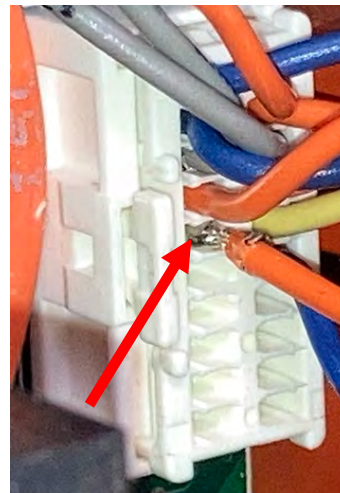

Figure 27
- i. Insert the orange wire directly to the left of the yellow wire, on the J1 vertical connector attached to the SIB board (see Figure 27). **(NOTE: Orient the flag of the wire terminal towards the outer edge of the plastic connector)**. Gently pull on the connector to ensure it is locked into place.